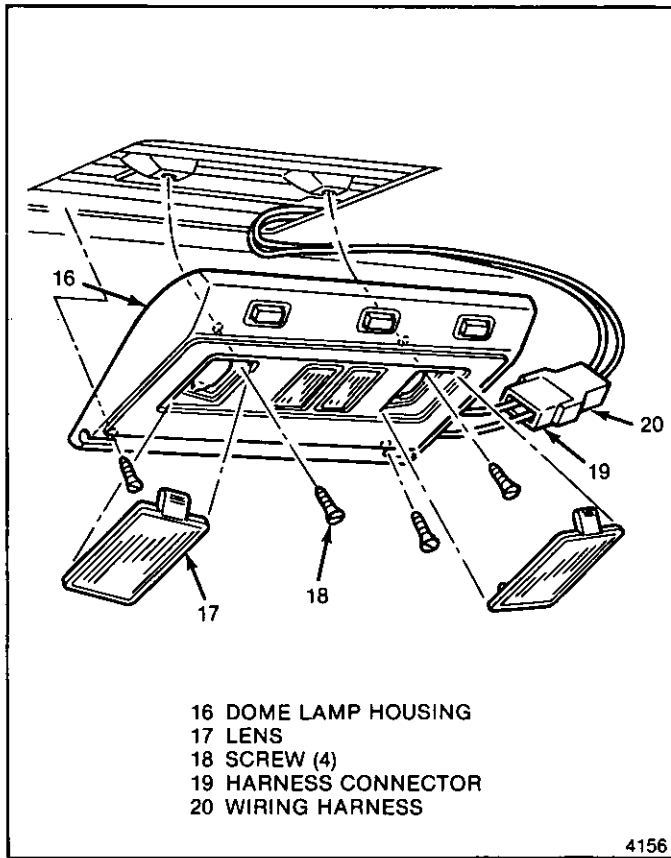

Fig. 8-6-Dome Lamp Assembly
**Remove or Disconnect (Figure 8-6)**
- Insert a flat-bladed tool between tab on lens (17) and housing (16)
3. Four housing attaching screws (18)
4. Harness connector (19) from wiring harness (20)
**Install or Connect (Figure 8-6)**